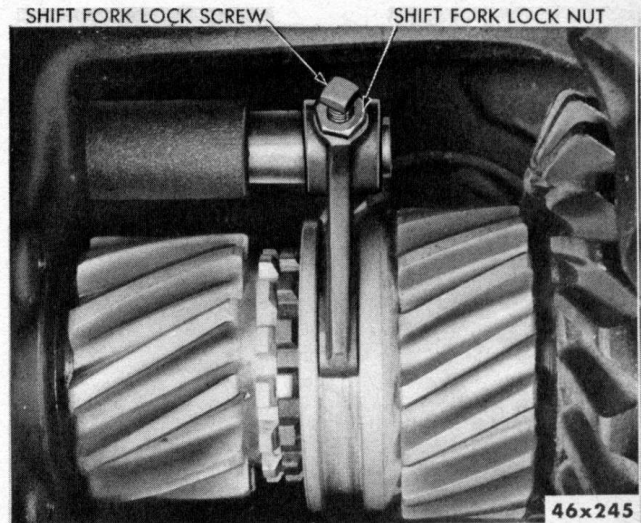

Fig. 78—Assembled View of Cross Shaft and Shift Fork
- (1) Loosen lock nut on shift fork lock screw and remove screw and nut (Fig. 78).
- (2) Remove the two shift unit stud nuts and lock washers.
- (3) Remove the shift unit and shaft assembly and lift out shift fork.
- (4) Remove third nut and lock washer. Tap sleeve and bushing assembly from carrier with a soft mallet.